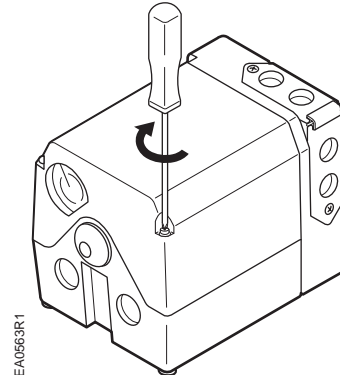

Figure 15.
2. Press the cover into place and then press the screws inward and tighten. See Figure 15.